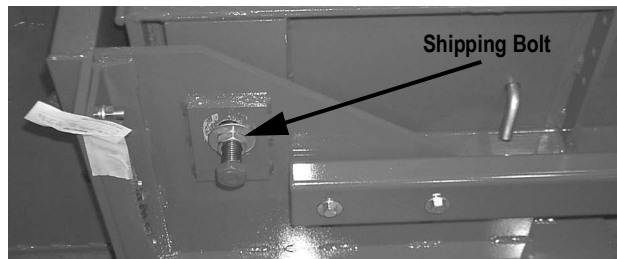

Figure 2-5. Weighbridge Shipping Bolts
1. Back off shipping bolts located on ends of weighbridges (four for each self-contained module) until each bolt is no longer inserted in the scale (see Figure 2-5).
5. Install shipping bolts on end of modules (see Figure 2-5 on page 10).